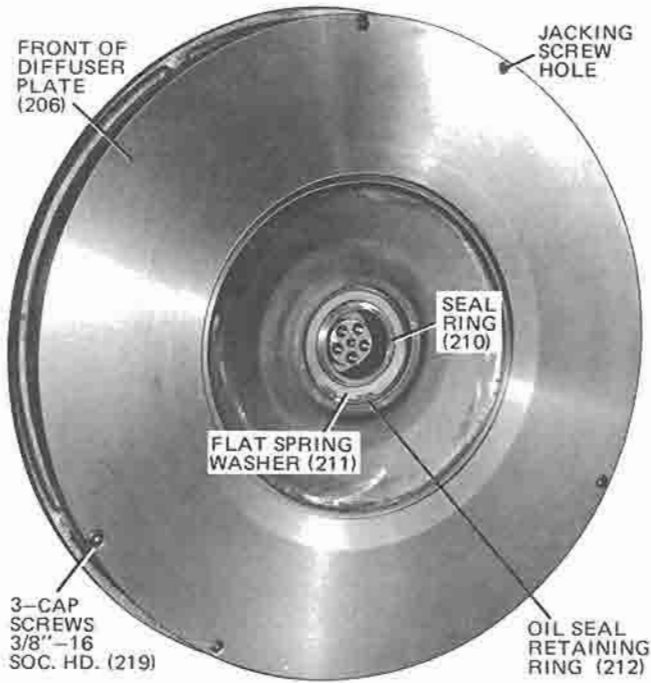

FIG. 13 — REMOVING DIFFUSER PLATE
2. Remove the high pressure seal ring (210) by removing the retaining ring (212) and spring washer (211). (See Fig. 13).
3. From the impeller side of the rotor support, remove the three socket hex hd. cap screws 3/8-16 (219) which secure the diffuser plate (206) to the rotor support and remove the diffuser plate from the rotor support. The use of eye bolt 5/8"-UNC (021-12366) provided in the tool kit will facilitate easy removal of the diffuser plate (See Fig. 13). An "O" ring seal (4) is used at the edge of diffuser plate and the rotor support (See Fig. 2).